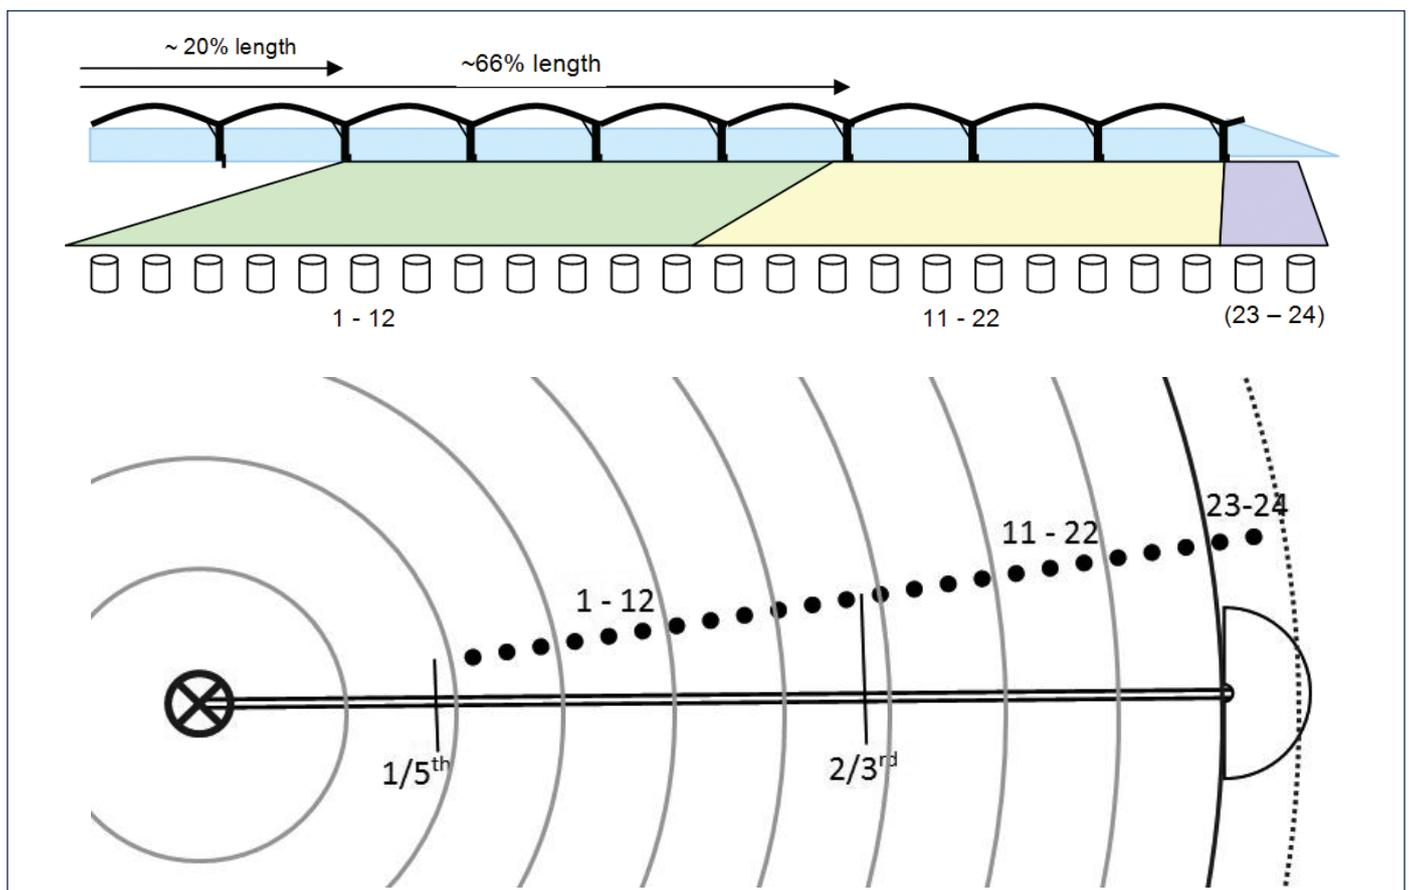

Figure 2.1. Layout of collectors along length of centre pivot irrigator.
2. Arrange twelve collector buckets at even spacing from this point to two thirds of the irrigator length (see 1–12 in Figure 2.1).
3. Arrange ten more buckets at even spacing from two thirds of the irrigator length to the end wheels (see 13–22 in Figure 2.1). The spacing will be different to the first twelve buckets.
4. Arrange two buckets at even spacing between the end wheel track and the extent of significant wetting (see 23–24 in Figure 2.1).